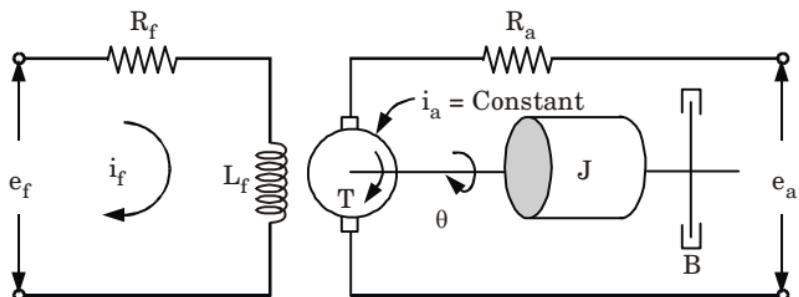

Fig. 14.
1. A schematic diagram of a field controlled DC motor (DC servo motor) shown in Fig. 14.